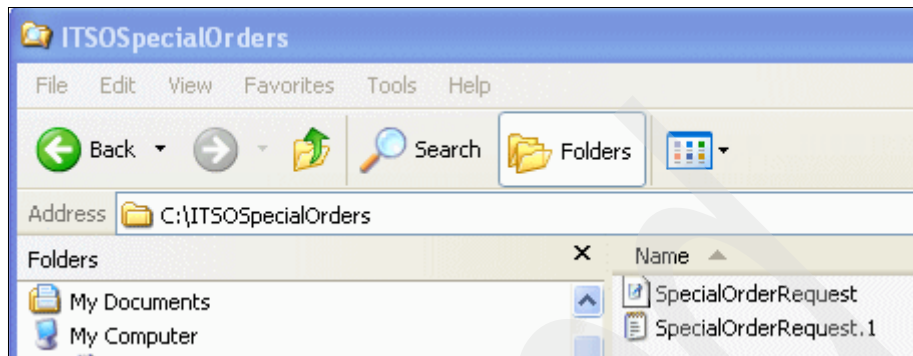

Figure 4-25 The flat file adapter sent two files as expected
7. Verify two files are created in C:\ITSOSpecialOrders, as shown in Figure 4-25.